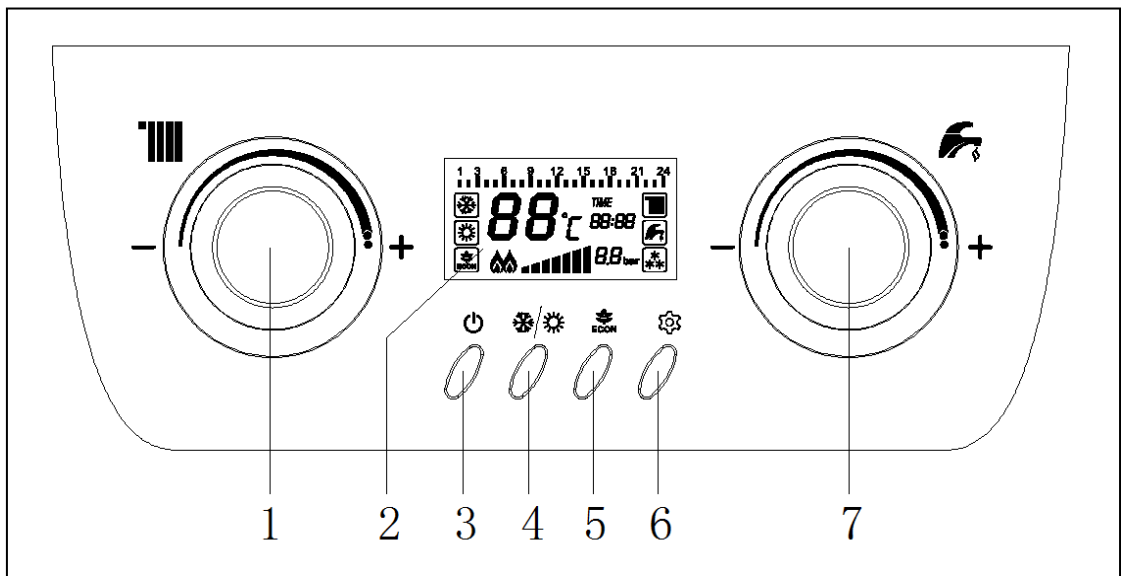

Рис. 8
3.10.2 View of the control panel of the model with a liquid crystal display (Fig. 8, Table 4)